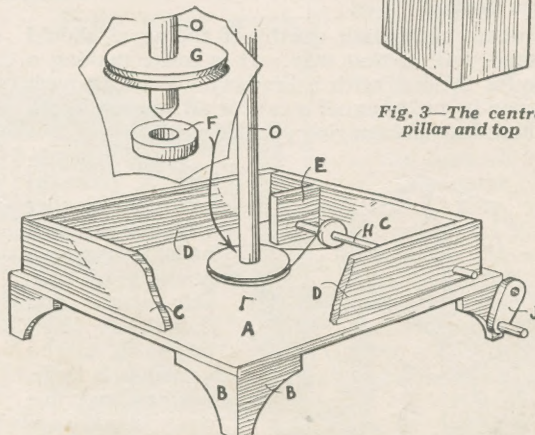

Fig. 1—Parts of base and mechanism
The enlarged diagram at the top of Fig. 1 shows some of the parts before being fixed. Take care in fixing the grooved wheels to their respective spindles that they are in alignment, that is, the larger wheel must be fixed at the same level as the spindle of the small wheel otherwise when the belt is put on and the turning motion commenced the vertical spindle will be apt to work out of its socket (F).
The front part is made in one piece from wood  $\frac{3}{16}$  in. thick as indicated in Fig. 1. First cut the wood 11 ins. long by  $6\frac{1}{2}$  ins. wide, and divide the surface for a distance of 7 ins. from the top into  $\frac{1}{2}$  in. squares. The shape of the moon and owl is now drawn from Fig. 1, and carefully cut out with a fretsaw.
Next cut a piece of wood  $\frac{3}{16}$  in. thick by 7 ins. long by  $6\frac{1}{2}$  ins. wide, mark off into  $\frac{1}{2}$  in. squares, draw the figure of the moon and then cut out with the fretsaw. This piece is the same as that indicated in Fig. 1, only the bottom part and the owl are not required.